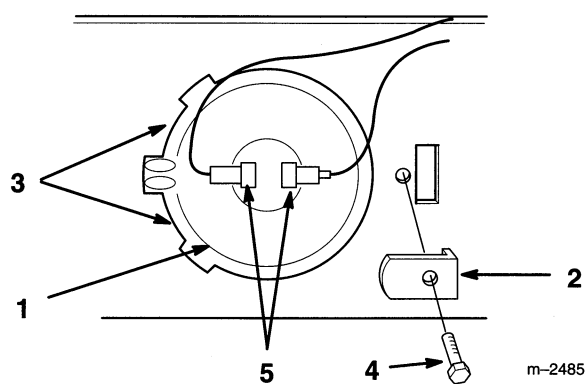

Figure 34
3. Remove screw securing retainer bracket (Fig. 34).
4. Lift and twist bulb out of pocket (Fig. 34).
1. Locate index boss horizontal and twist bulb under tabs on left side of pocket (Fig. 34).
2. Hold bulb in socket with retainer bracket and secure with screw (Fig. 34).
3. Push wire connectors onto bulb terminals (Fig. 34).